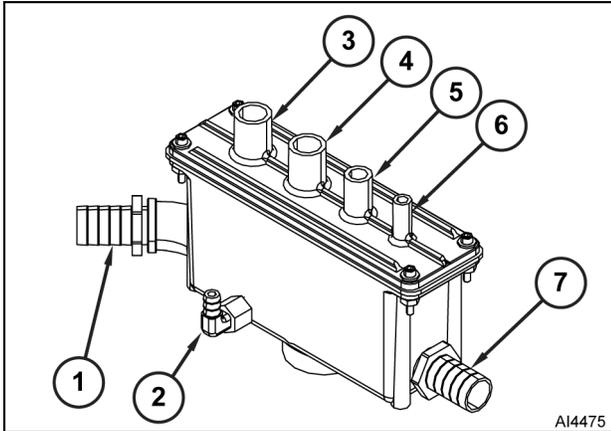

Fig. 19
- Cold water condensate hoses (2 and 6, Fig. 19).